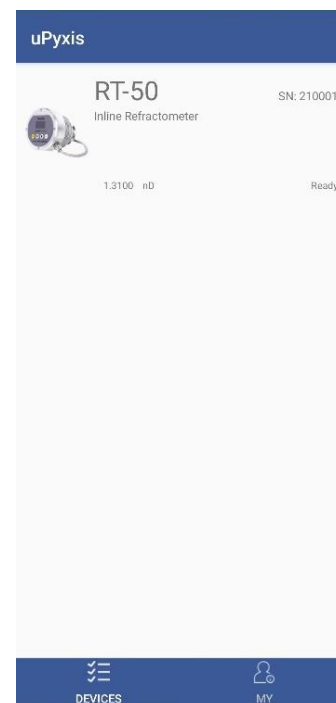

Figure 15. – Discovered RT-50 on uPyxis Mobile APP
6. Hold the **OK** key on the face of the unit for 3 seconds to start the air calibration process (Figure 15).